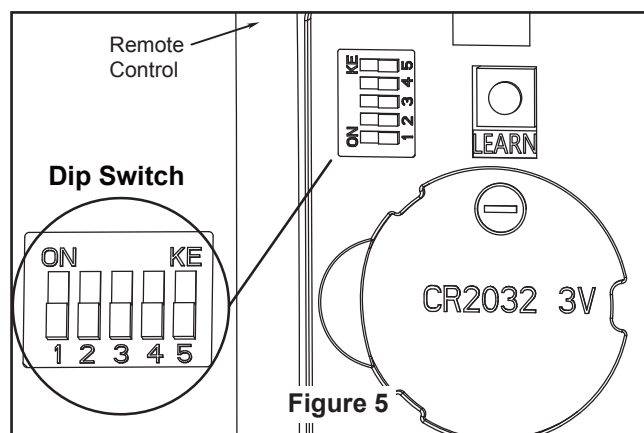

Figure 5
- ☐ 5. Secure the glass to light kit assembly by twisting in a clockwise direction. Do not over-tighten. (Figure 5)
- ☐ **5.** To set the remote code with a small screwdriver or ball point pen (neither included), slide dip switches firmly up or down. (Figure 5)